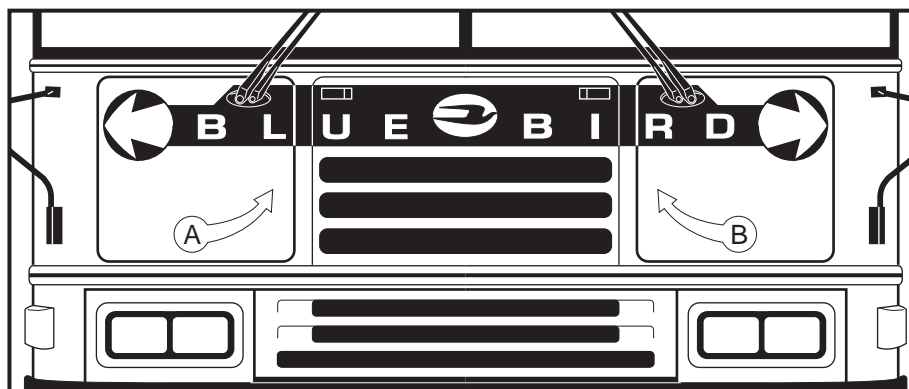

Fig. 4
2. Pull two access door release handles (one each side Fig 3) toward the center to open access panels (Figs 4 a & b).